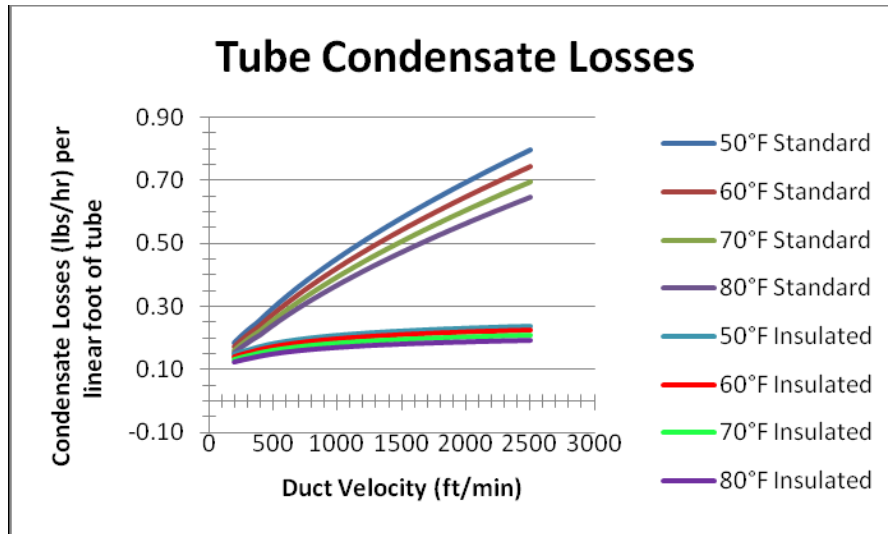

Figure 2: Condensate Losses per Linear Foot of Tube
Figures 2 and 3 below show the condensate losses per linear foot of tube for uninsulated and insulated distributor tubes and headers at various temperatures and duct velocities.
1. First, the specific losses for the tubes can now be found by referencing Figure 2 below. At 1000 feet per minute and 55 °F duct temperature, the uninsulated tubes would lose **0.44 lbs/hr per linear foot**.
Figure 2 shows the condensate losses per linear foot of tube for uninsulated and insulated distributor tubes various temperatures and duct velocities.
- Next the linear length of the tubes must be calculated for use with the Figure 2.
- The above case can be repeated for the insulated distributor. The insulated distributor would be dimensionally identical to the uninsulated header, however the specific losses for the tubes and header will change. From Figure 2, the tube losses are found to be **0.20 lbs/hr per linear foot of tube**.